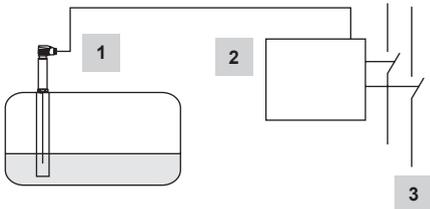

Fig. 8
- Fig. 8** Combination consisting of 2 level probes LP40 and 1 level switch LCS3050 as water level limiter. The level switch opens two separate safety circuits. Functional safety IEC 61508, SIL 3. Further applications in accordance with national sets of regulations